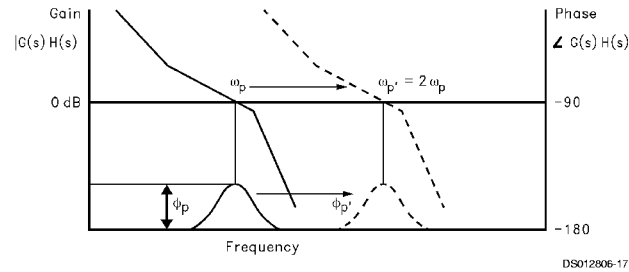

FIGURE 4. Open Loop Response Bode Plot
A plot of the magnitude and phase of $G(s)H(s)$ for a stable loop, is shown in *Figure 4* with a solid trace. The parameter ϕ_p shows the amount of phase margin that exists at the point the gain drops below zero (the cutoff frequency ω_p of the loop). In a critically damped system, the amount of phase margin would be approximately 45 degrees.
If we were now to redefine the cut off frequency, ω_p' , as double the frequency which gave us our original loop bandwidth, ω_p , the loop response time would be approximately halved. Because the filter attenuation at the comparison frequency also diminishes, the spurs would have increased by approximately 6 dB. In the proposed Fastlock scheme, the higher spur levels and wider loop filter conditions would exist only during the initial lock-on phase—just long enough to reap the benefits of locking faster. The objective would be to open up the loop bandwidth but not introduce any additional complications or compromises related to our original design criteria. We would ideally like to momentarily shift the curve of *Figure 4* over to a different cutoff frequency, illustrated by the dotted line, without affecting the relative open loop gain and phase relationships. To maintain the same gain/phase relationship at twice the original cutoff frequency, other terms in the gain and phase *Equation (4)* and *Equation (5)* will have to compensate by the corresponding “ $1/\omega$ ” or “ $1/\omega^2$ ” factor. Examination of equations *Equations (2)*, *(3)* and *Equation (5)* indicates the damping resistor variable $R2$ could be chosen to compensate the “ ω ” terms for the phase margin. This implies that another resistor of equal value to $R2$ will need to be switched in parallel with $R2$ during the initial lock period. We must also insure that the magnitude of the open loop gain, $H(s)G(s)$ is equal to zero at $\omega_p' = 2\omega_p$. K_{VCO} , K_ϕ , N , or the net product of these terms can be changed by a factor of 4, to counteract the ω^2 term present in the denominator of *Equation (2)* and *Equation (3)*. The K_ϕ term was chosen to complete the transformation because it can readily be